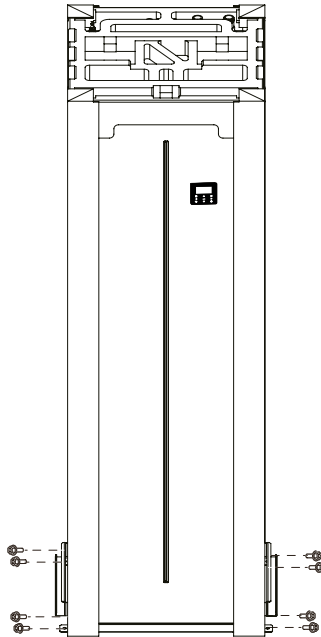

Fig. 2-5
- Remove the 8 screws of the sheet metal and remove the sheet metal (Refer to Fig.2-5).